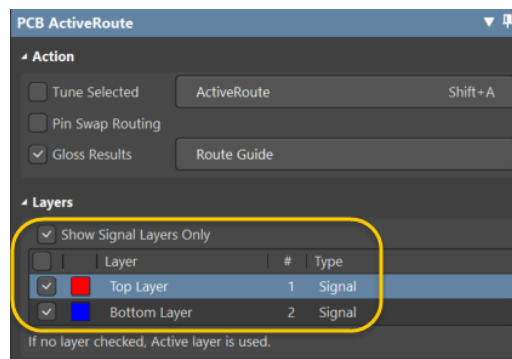

Figure 19. PCB ActiveRoute routing layer setup
43. Enable both checkboxes in the *PCB ActiveRoute* panel *Layers* section to allow *ActiveRoute* to utilize both the Top and Bottom layers when the command is activated, as shown in Figure 19 below. However, in our case since we only have SMD Top-Layer pads on UI1 and *ActiveRoute* tool does not drop vias, routes will only be placed on the Top Layer.